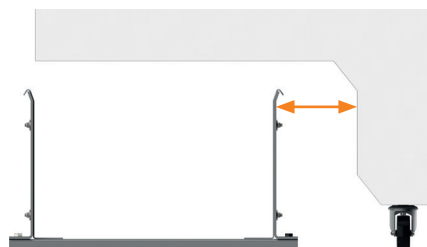

Fig. 3
- As straight as possible to avoid friction between the sidebands and the walls of the channel (**Fig. 3**)